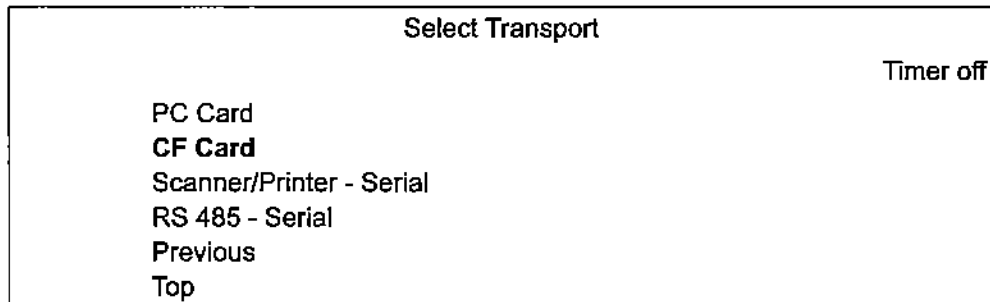

Figure F-14. Select Transport Menu
4. **Select the File Media Source** - see Figure F-14. The *Select Transport* menu is displayed. Use the **A** button (Down) to highlight *CF Card* and select using the **C** button (Select/Action).